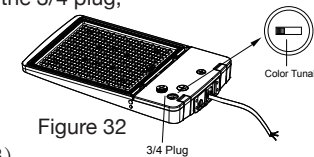

Figure 32
1. Color temperature adjustment (Figure 32)